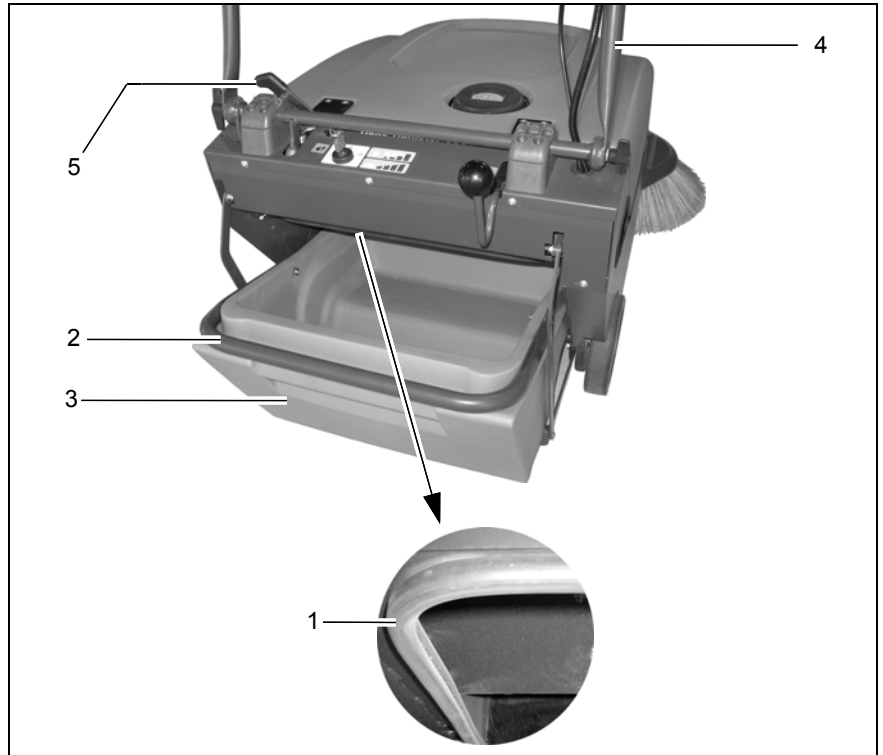
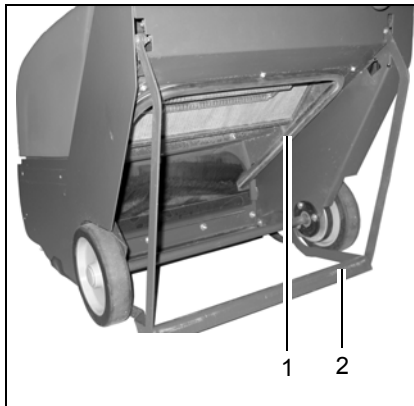

Fig. 24
Fig. 25
1. Switch the machine off and move the lever (Fig. 24/5) for locking the dirt hopper to the right (looking in drive direction) and, at the same time, pivot the handlebar (Fig. 24/4) forwards. The frame (Fig. 25/2) of the dirt hopper is lowered.
The engine must be at a standstill before the dirt hopper (Fig. 24/3) is removed. Risk of injury through swirling waste and dust!
2. Hold the dirt hopper (Fig. 24/3) by the handle (Fig. 24/2) and pull it to the rear and out of the machine
Check the fill level of the dirt hopper (Fig. 24/3) regularly and empty it regularly and as necessary.
1. Insert the dirt hopper (Fig. 24/3) back in the machine from the rear until they perceptibly engage in the frame (Fig. 25/2).
2. Pivot the handlebar (Fig. 24/4) towards the rear until the lever (Fig. 24/5) for locking the dirt hoppers audibly engages.
Check the dirt hopper seals (Fig. 25/1) for wear on a weekly basis and change the seals as necessary.
2. Pull the seals (Fig. 25/1) from the edges.
3. Press new seals (Fig. 25/1) on the edges.
Clean the panel air filter (Fig. 24/5) in the dust vacuum regularly and as necessary using the shaking device:
1. When the engine is switched off, pull/push the lever (Fig. 24/9) of the shaking device quickly, several times.
1. Unlock the hood (Fig. 24/7) using a square wrench and open the hood (Fig. 24/7).
Ensure the engine has stopped before opening the hood (Fig. 24/7). Risk of injury through belt drive and rotating fan(Fig. 24/3)!
2. Release the top filter cover locks: Unscrew the knurled screws (Fig. 24/1) from the threaded pins (Fig. 24/4).
3. Release the bottom filter cover locks: Pivot the hinged locks (Fig. 24/6) outwards.
4. Remove the filter cover (Fig. 24/8).
5. Remove the panel air filter (Fig. 24/5).
1. Drop the panel air filter (Fig. 24/5) a few times from a small height onto a level, solid surface. Be careful not to damage the filter ribs!
The ground must not have any surface irregularities. Do not drop the panel air filter (Fig. 24/5) onto the ground at a slant.
Never install panel air filters (Fig. 24/5) which have damaged filter ribs!
If the panel air filter (Fig. 24/5) is removed, check the self-adhesive sealing strips (Fig. 24/2) for signs of damage. Damaged sealing strips (Fig. 24/2) must be replaced:
1. Pull off the damaged sealing strips (Fig. 24/2).
2. Clean any residual adhesive from the surfaces on which the sealing strips (Fig. 24/2) must be adhered.
3. Adhere the new sealing strips (Fig. 24/2).
1. Insert the thoroughly cleaned or new panel air filter (Fig. 24/5) from the correct side in the filter support frame.
Pay attention to the labeling on the side of the panel air filter (Fig. 24/5)!
2. Replace the filter cover (Fig. 24/8).
3. Close the bottom filter cover locks: Pivot the hinged locks (Fig. 24/6) over the edge of the filter cover (Fig. 24/8).
4. Close the top filter cover locks: Screw the knurled screws (Fig. 24/1) on the threaded pins (Fig. 24/4).
5. Close the hood (Fig. 24/7) so that it audibly locks.